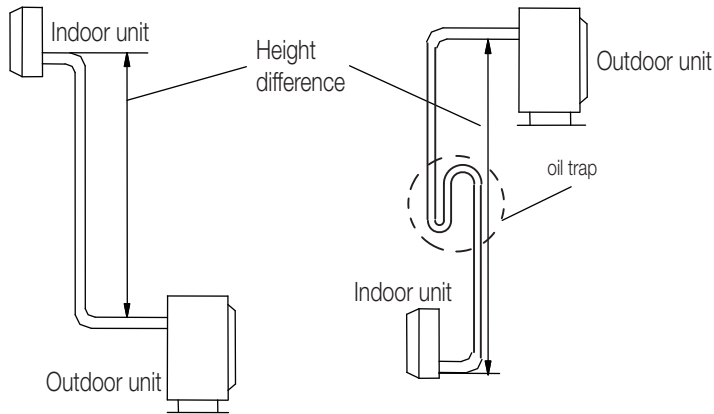

Fig. 3
- If the installation position of the outdoor unit is higher than indoor unit and the tubing is longer than 10m, add an oil trap on the gas tubing for every 8m. (Fig.3)